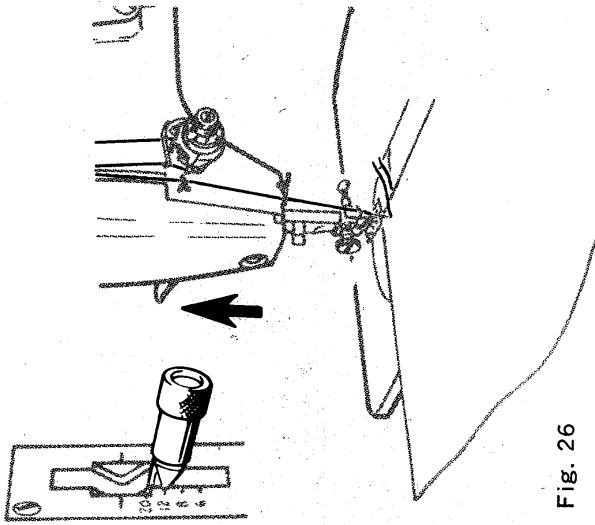

Fig. 26
3. Position needle into fabric about half inch from edge. Fig. 26.